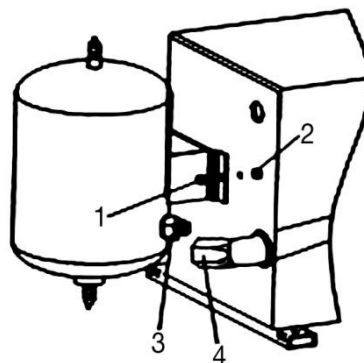

Fig. 5
6. Mount the air tank at the back of the machine (Fig. 5) and tighten the nut 1 (Fig. 5) on the bolts 2 (Fig. 5), and attach the hose 4 to the tank 3.